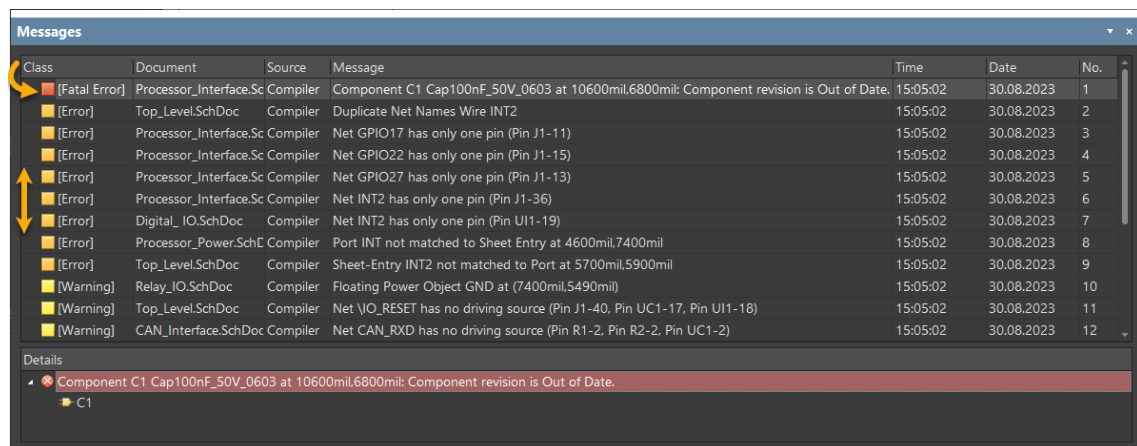

Figure 4. Net <name> only has one Pin error in the Messages panel
21. If not already done, sort the listings in the *Messages* panel to group the *Warnings*, *Fatal Errors* and *Errors* by clicking the **Class** column header until the *Fatal Error* are brought to the top of the list as shown in Figure 4. Feel free to enlarge the *Messages* panel to see all of the details.
22. You should see 3 “Net GPIOXX has only one pin” Errors in the *Messages* panel as shown in Figure 4 below.
24. Double click the Fatal Error message, Figure 4.